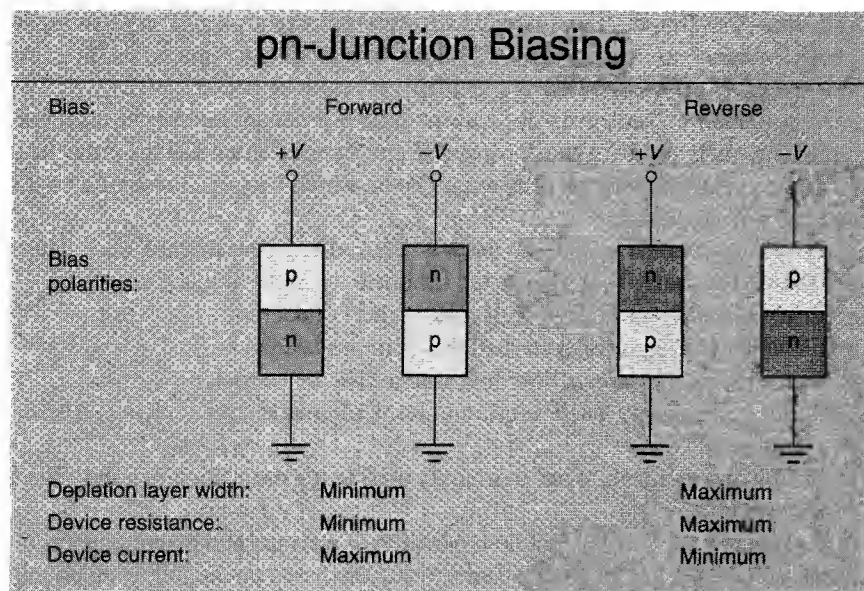

FIGURE 1.18
The voltage across a forward-biased pn junction will be approximately equal to 0.7 V for silicon and 0.3 V for germanium. When a pn junction is reverse biased, it acts essentially as an *open circuit*. These points are summarized in Figure 1.18.
29. Forward bias and reverse bias are compared in Figure 1.18.